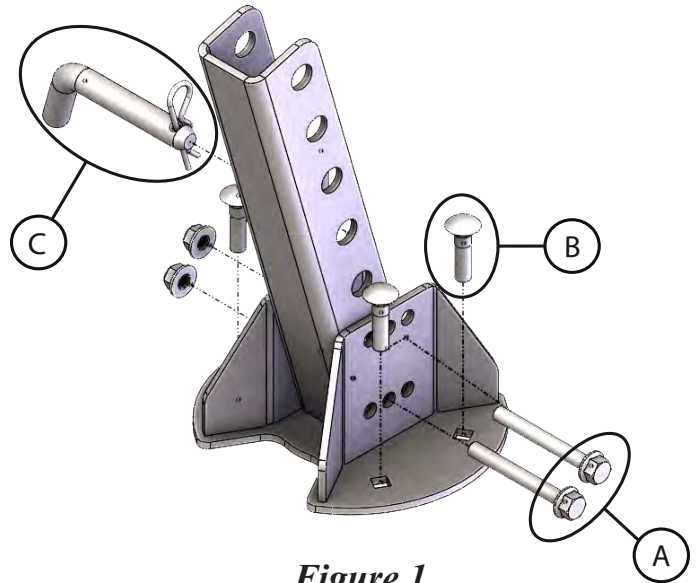

Figure 1
2. Mount Plow Lever Lift Bracket using the four longer 3/8" carriage bolts supplied in the hardware kit (B) as shown in **Figure 1 & 3**.
4. Mount plow lever lift channel using the two 3/8" bolts supplied in the hardware kit (C) as shown in **Figure 1**.